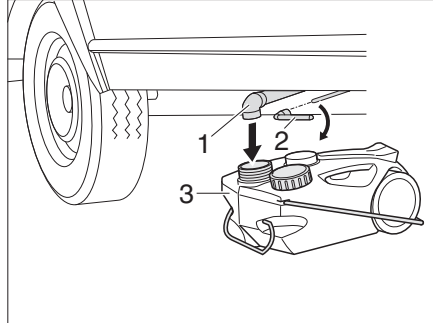

Fig. 148 Waste water tank, underfloor
- Place the mobile waste water tank (Fig. 148,3) under the waste water piping (Fig. 148,1).
- Place the socket spanner (Fig. 148,2) on the square bolt.